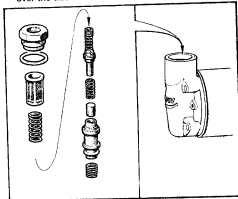

Fig. 21 - Regulating valve assembly
20. Assemble the regulating valve components to the end plate in the order shown in Fig. 21.